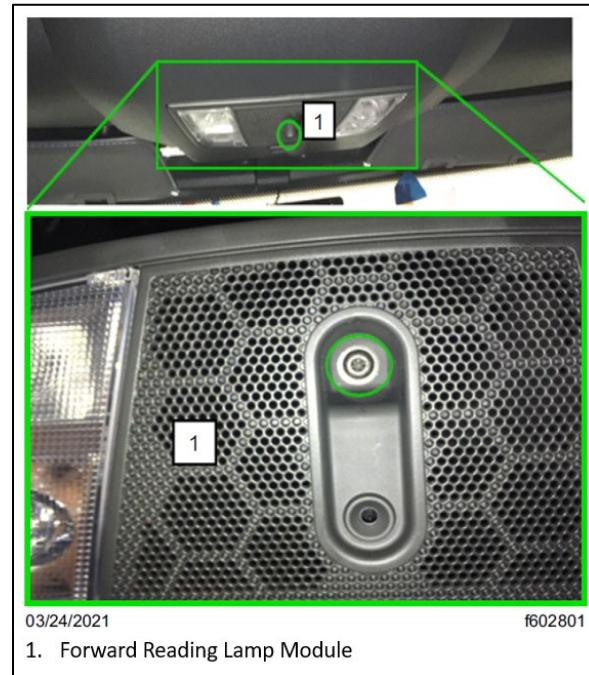

Fig.14, Forward Reading Lamp Module
8.1. Remove the fastener that attaches the reading lamp module to the center overhead storage bin, and then remove the reading lamp module from the vehicle. See Fig. 14.